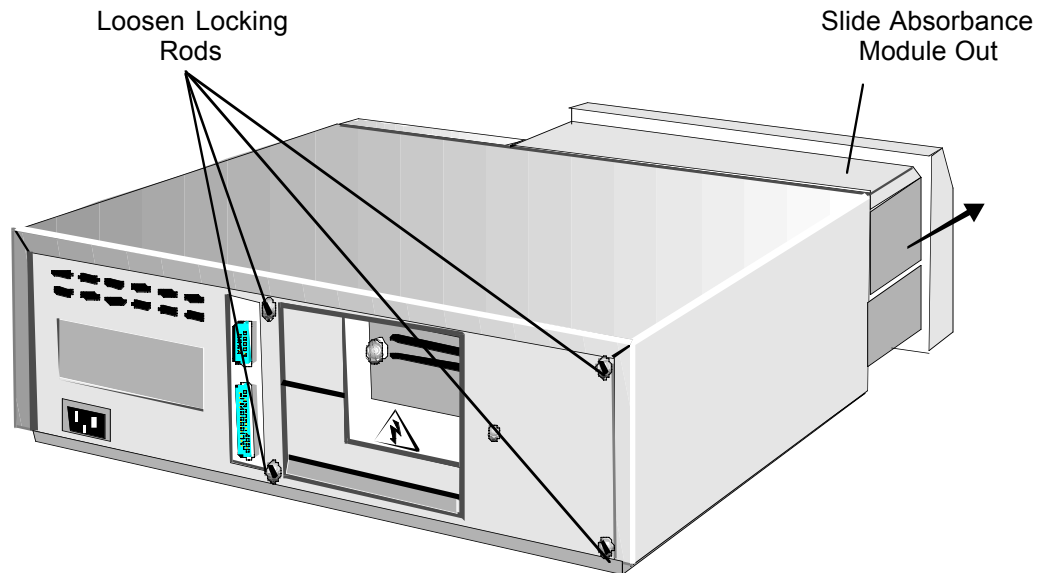

Figure 34. Removal of the Absorbance Module
1. Loosen the four locking rods at the rear of the instrument, using a flat blade screw driver (Figure 34).